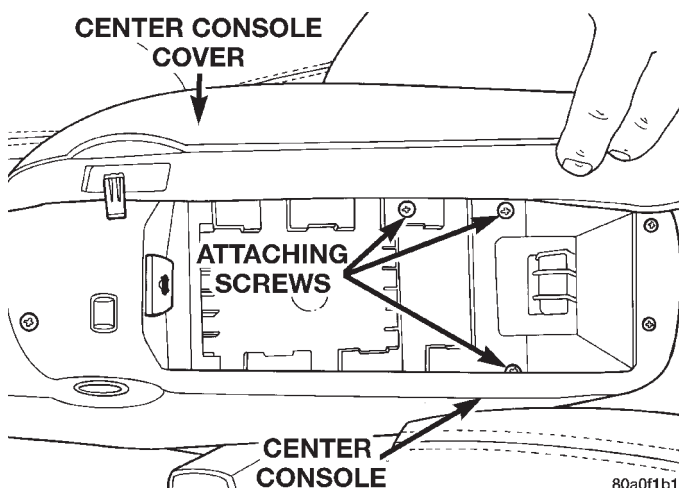

**Fig. 121 Center Console Rear Attaching Screws**
(2) Remove the 3 screws (Fig. 121) attaching the rear of the center console to the console bracket.
(3) Remove the shift range indicator from the center console. The shift range indicator is attached to
(12) Install the 3 screws attaching the rear of the console to the console bracket (Fig. 121).